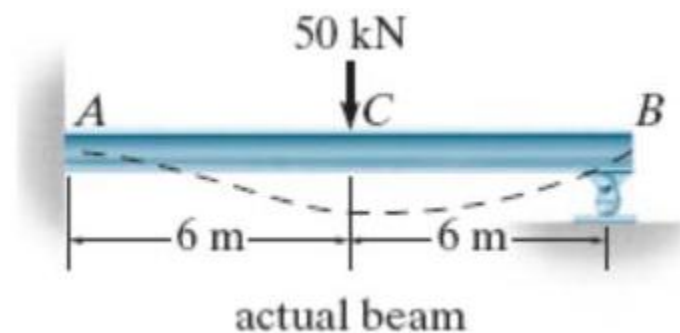

Fig. 1
- (ii) Using the flexibility method, find the reactions in Fig. 1. Draw the Shear force and bending moment diagrams. EI is constant. (20 marks)